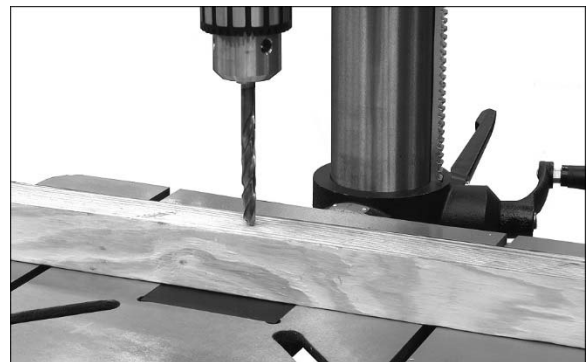
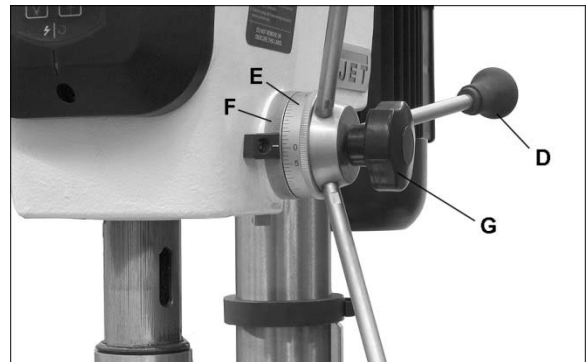

Figure 20
Figure 21
Refer to Figures 20 and 21.
1. Loosen lock handle (G, Figure 21).
2. Use downfeed handles (D, Figure 21) to lower the bit until it just contacts the top surface of workpiece, as shown in Figure 20.
3. Hold downfeed handle in position, and rotate scale ring (E, Figure 21) to zero. This sets the workpiece surface as your zero reference point.
4. Move workpiece out from under bit, and rotate downfeed handle to lower bit until scale ring (E) reads your desired depth.
5. Hold downfeed handle in this position, and rotate lock ring (F) *counterclockwise* as far as it will turn. You should be able to feel and hear when the lock ring reaches the end of its rotation.
6. Tighten lock handle (G).
8. To release the depth stop, loosen lock handle (G).